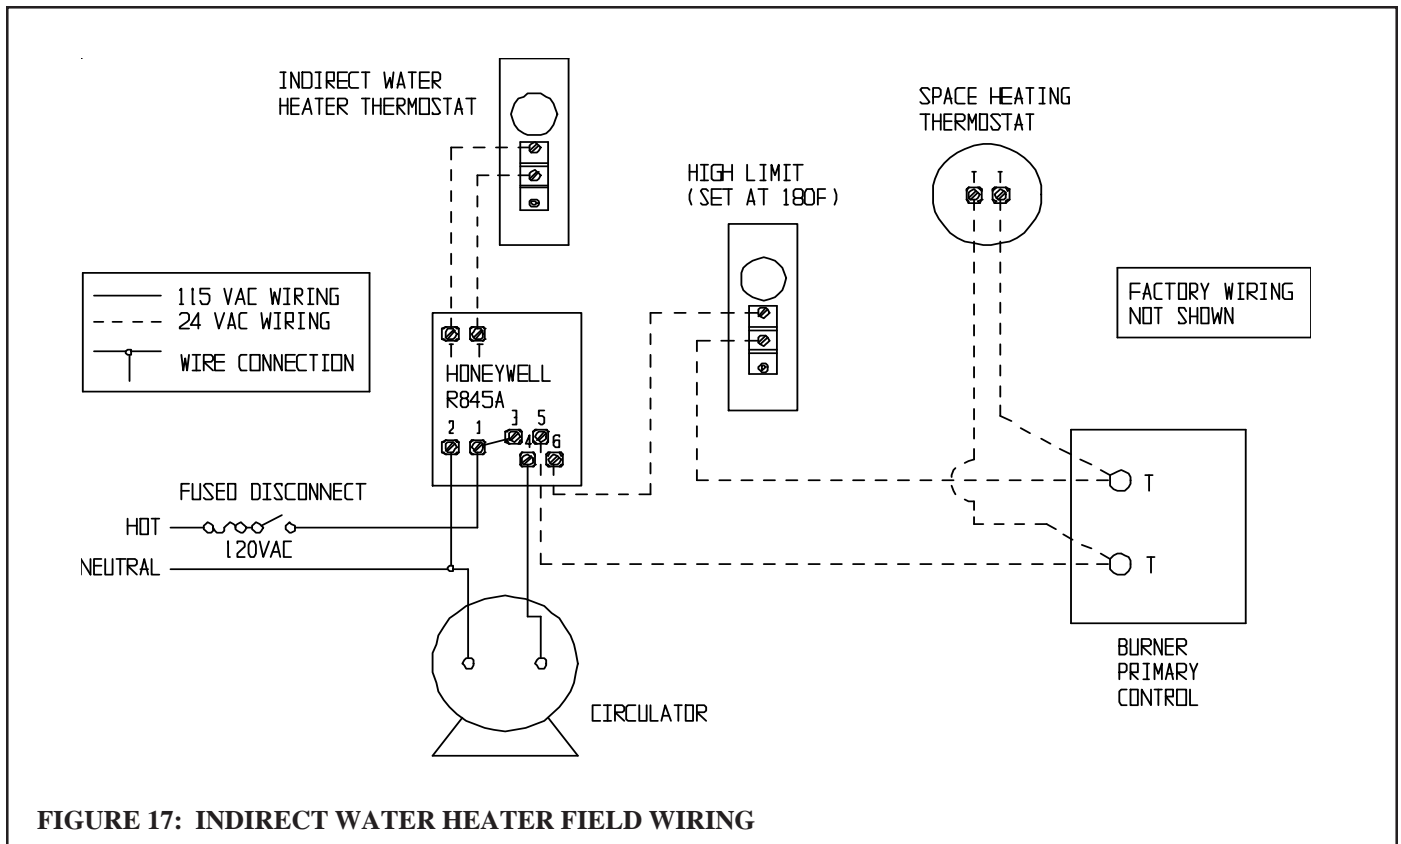

FIGURE 17: INDIRECT WATER HEATER FIELD WIRING
- 1) **Circulator** - Mount the circulator as shown in Figure 12A. The circulator should be located as low and as close to the boiler as practical. Do not install valves, or other devices having a significant pressure drop, between the boiler and the circulator inlet. All piping between the boiler and the circulator inlet should be 1", regardless of the size of the piping required in the rest of the system. See Figure 17 in Part X for wiring information.
- 4) **Boiler Limit Control** - Use a SPST break-on-rise temperature limit control such as the Honeywell L4006A. Do not set the limit above 180F as doing so may cause the boiler to steam when there is no call for heat. See Figure 17 for wiring information.
Figure 17 shows field wiring for an indirect water heater. A Honeywell R845A or equivalent DPST relay and transformer is required. The high limit described in Part VIII must also be supplied by the installer. A call for heat from the indirect water heater thermostat will energize the relay making both sets of contacts. One set of these contacts then energizes the circulator. The other set of contacts will make the “T” and “T” contacts on the burner primary control, firing the burner. If the boiler water temperature exceeds the high limit setting of 180F, the high limit will open the “T” - “T” circuit and the burner will shut down.